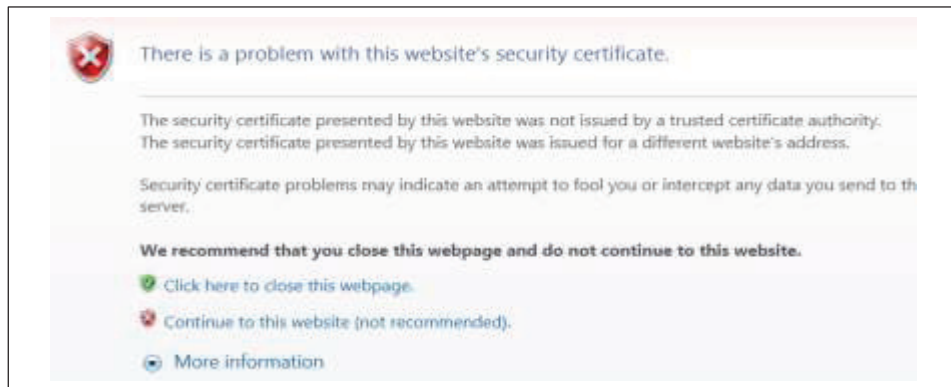

Figure 20. Certificate Warning
When encryption is enabled the ZW-REC is configured with a default SSL certificate that is not issued by a Certificate Authority (CA). Most web browsers provide a warning page when connecting to the ZW-REC indicating the SSL certificate is not issued by a trusted certificate authority. This is normal and it is safe to proceed. Click '**Continue to this website**' to bring up the ZW-REC Home Page. A sample warning displayed by Internet Explorer is shown below in **Figure 20**.